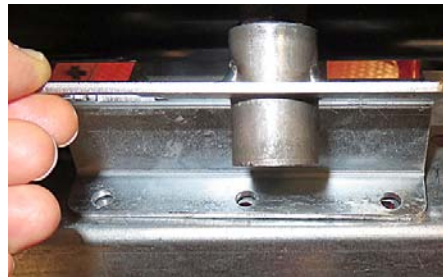

Figure 57
56. Detach the electrical connector from the dispose assembly. Position over the pre-drilled holes (see Figure 57).